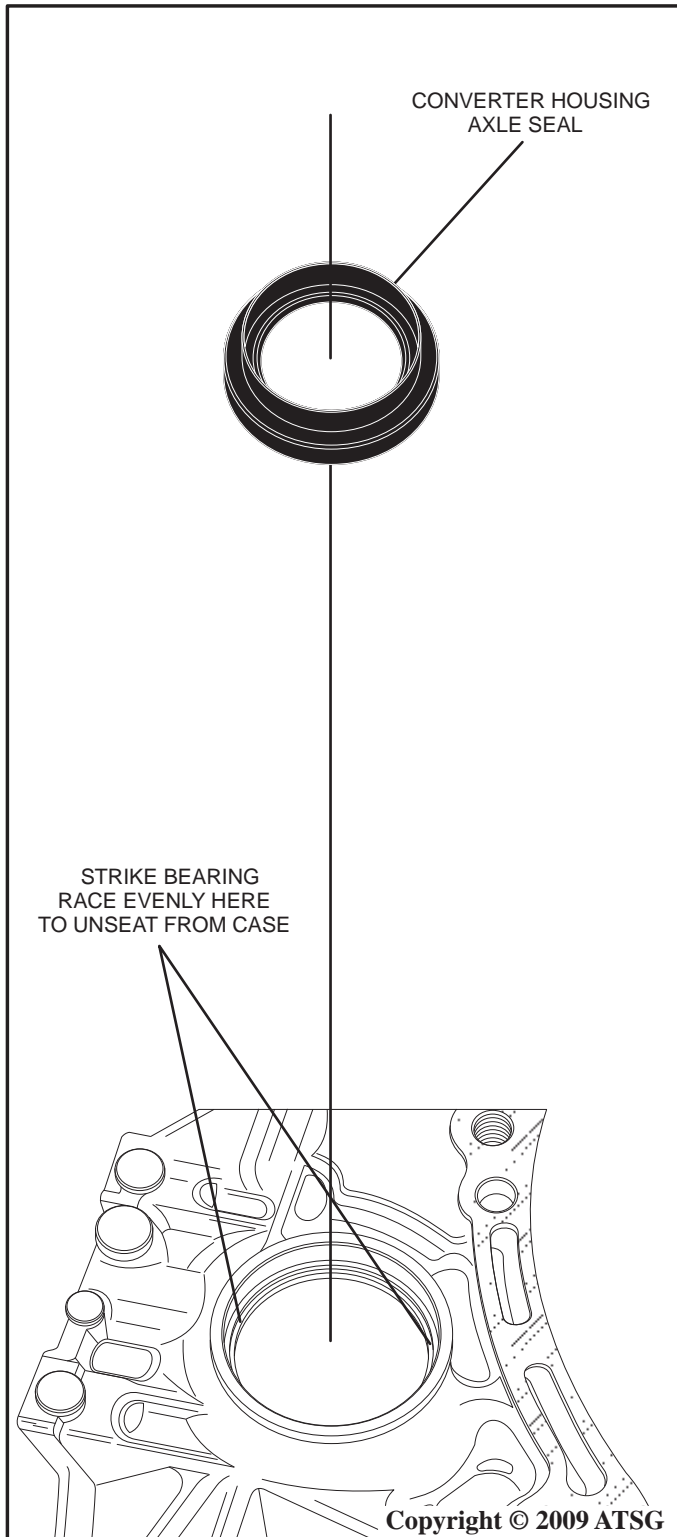

Figure 60
1. Using a screwdriver, or seal removal tool, carefully pry and remove the axle seal from the converter housing as shown in Figure 60.
2. Using an appropriate drift punch and a hammer, strike the back of the differential carrier tapered roller bearing race to unseat it from the case as shown in Figure 60.